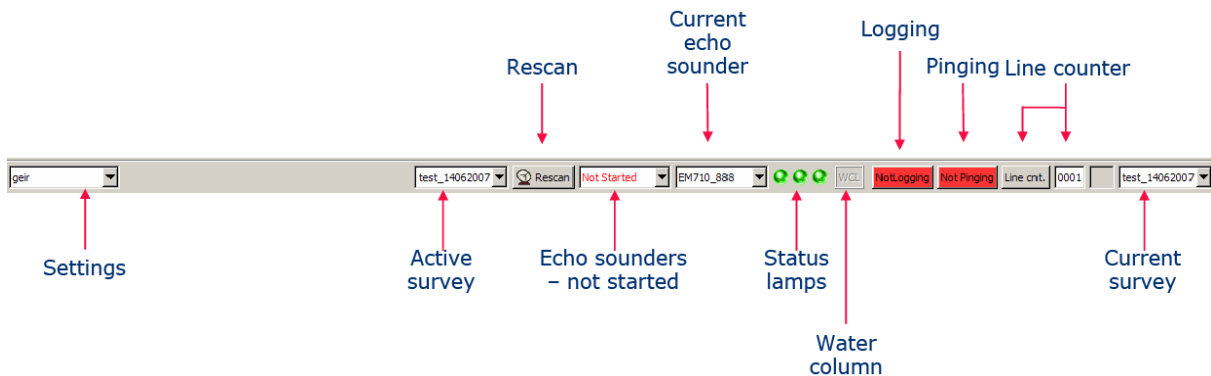

Figure 12: The main frame
Before starting pinging, the echo sounder must be turned on. Select the echo sounder from the **Echo sounder - not started** combo box (Figure 12). The **Logging** and **Pinging** buttons will all be disabled until the echo sounder is ready. When the echo sounder is ready, pinging can be started.
Pinging must be started manually after the echo sounder is ready. Press the **Pinging** button on the toolbar. The button is red when **Off** and green when **On** (Figure 12).
Logging must be started manually after the echo sounder is ready. When the echo sounder has started logging, data is automatically saved to disk in *.all file format (Figure 12).
For logging the water column data press the **WCL** button on the toolbar it will turn from grey to red if logging is enabled and will turn green during logging (Figure 12). This data will be written to *.wcd files in your selected folder, separately from the *.all files.
- Observe the three status lamps on the main toolbar which give status of hardware units (applies to multibeam echo sounders only) (Figure 12).